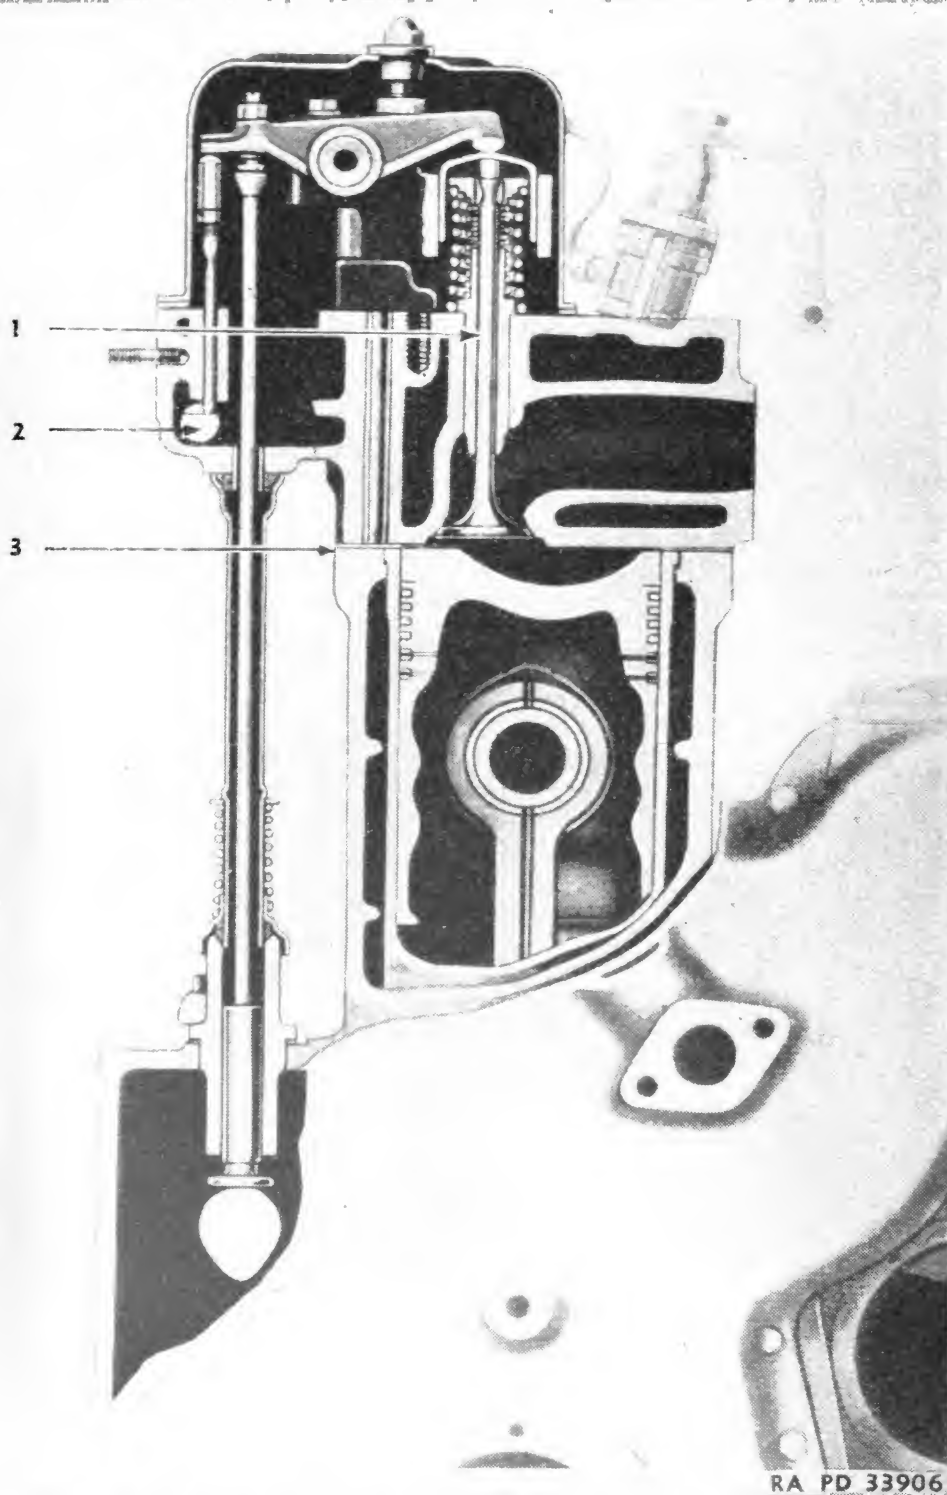
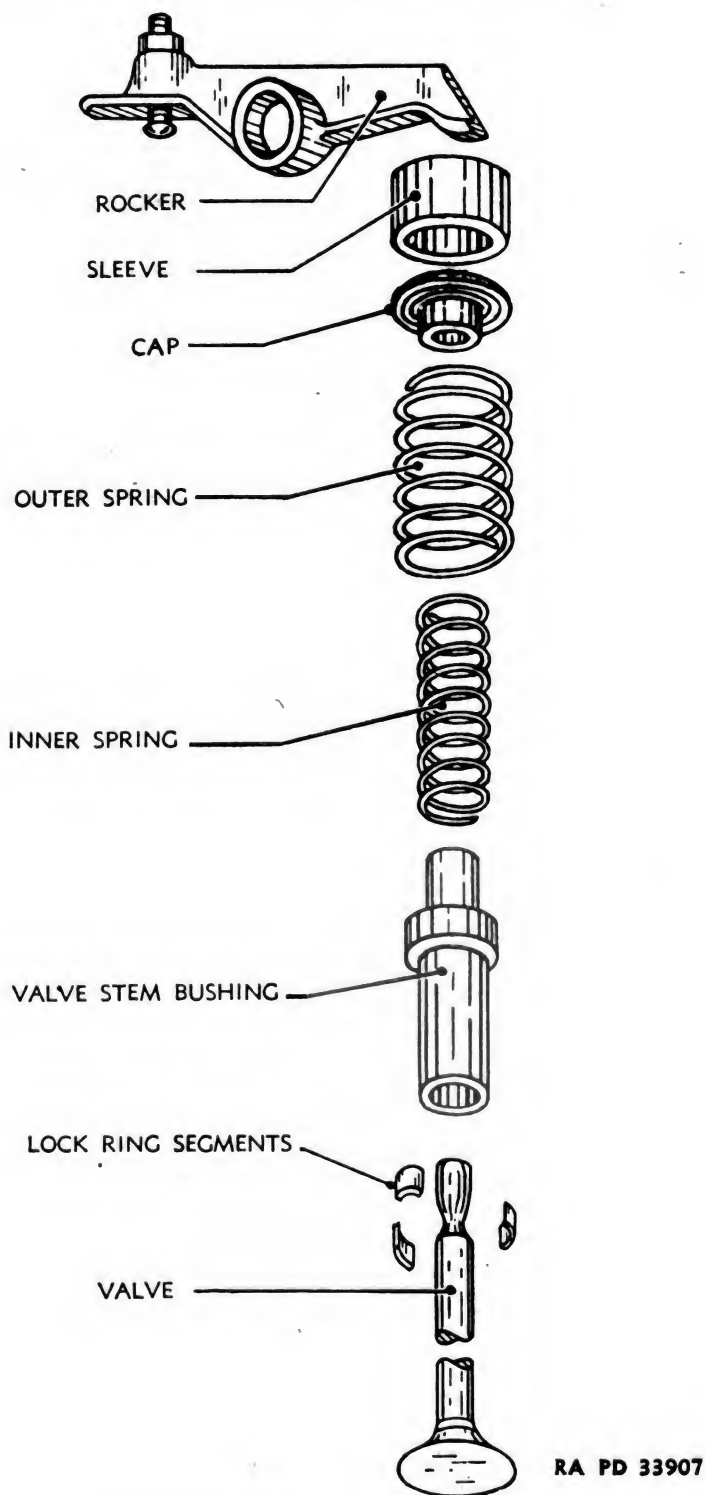

FIGURE 17.—Cross section of cylinder head and rocker arm.
FIGURE 18.—Valve assembly—exploded view.
19. General.—*a.* The two individually removable cylinder heads (fig. 17) are equipped with pressure lubricated overhead valve mechanisms. A compression release mechanism (2) is used to hold the exhaust valves open while cranking the Diesel engine to relieve the initial starting load on the starting engine.
b. Valve stem bushings (1) are replaceable.
c. Copper asbestos gaskets (3) are used between the heads and the cylinder block.
22. Valves and valve mechanism.—Properly adjusted valves (fig. 18) will operate for many hours before they need to be serviced. Eventually, however, the valve faces and seats may become slightly pitted which ultimately allows compression losses.